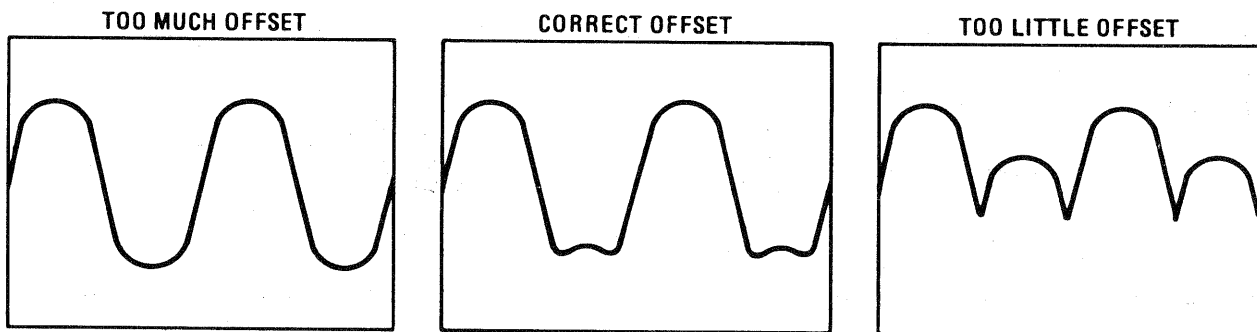

Figure 5-11. YTO Loop Offset Adjustment Waveforms
11. Set the YTO loop offset adjustment A3A9A4R53, OFST, so the sinusoidal waveform just begins to fold over. See Figure 5-11.